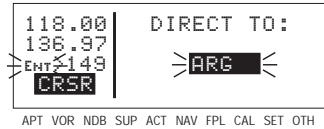

Figure 4-101
1. Press **[D→]** (figure 4-101). The rules described in section 4.9, "Direct To Operation", dictate which waypoint identifier will be initially displayed on the Direct To page. Change the waypoint if necessary.